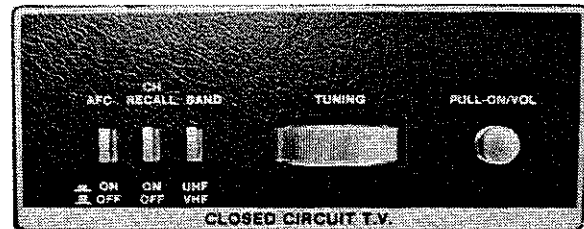

Figure 2-16. TV Controls
- VHF/UHF tuning and TV receiver controls, on the side panel above and to the left of the pilot, figure 2-16.
When the system is used for CCTV operation, the rear-facing CCTV camera transmits images directly to the monitor via coach cabling. CCTV operation can only occur when the ignition is **ON**. For normal operation, when the ignition is **OFF**, the system functions as a conventional TV receiver, via the controls shown in figure 2-16 and 2-17.